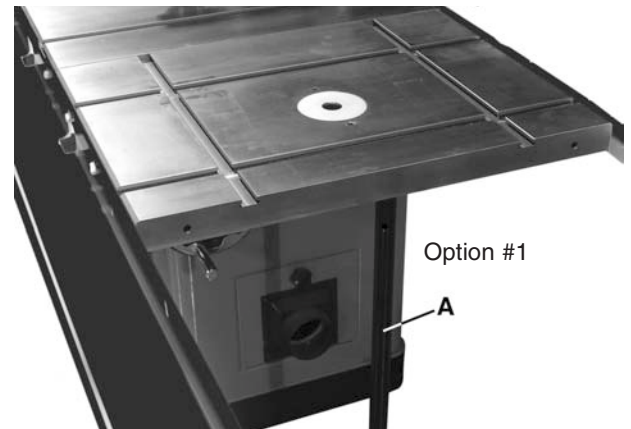

FIGURE 2
**Option #1-** Mount the router table attachment directly to the main table of your table saw (Fig.2). Disassemble and remove the right side extension wing (if mounted to your table). Use the extension wing mounting hardware (three M8 x 1.25 cap screws, spring washers and washers) to install router table. Only hand tighten at this point.
- 1) Once the router table is secured to the table, install the support leg (A) Fig.2 underneath the front edge of the router table. To install, screw support leg set screw into table, then screw support leg.